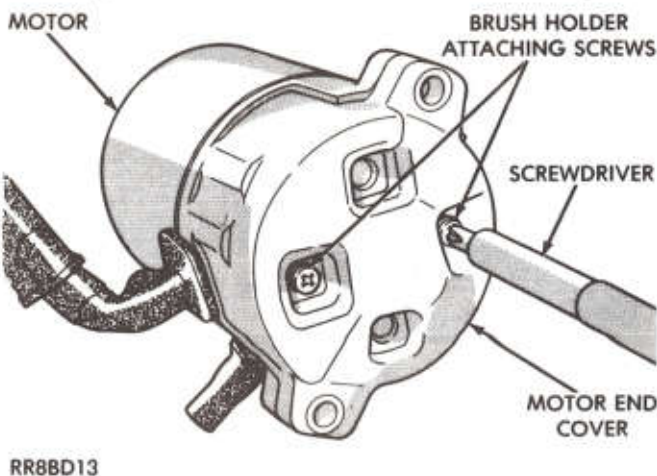

Fig. 8—Remove or Install Motor End Cover Screws
(7) Remove brush holder attaching (2) screws from the motor end cover (Fig. 8).